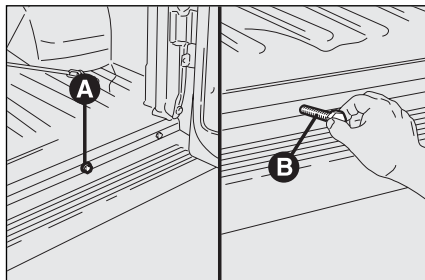
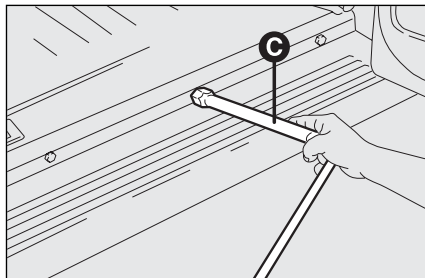

fig. 4
fig. 5
- ☐ fit the wrench **C-fig. 5** to extension **B-fig. 4** and turn it clockwise to raise the spare wheel;
- ☐ remove the extension **B-fig. 4** and re-fit it together with the wrench **C-fig. 5** into the tool compartment;